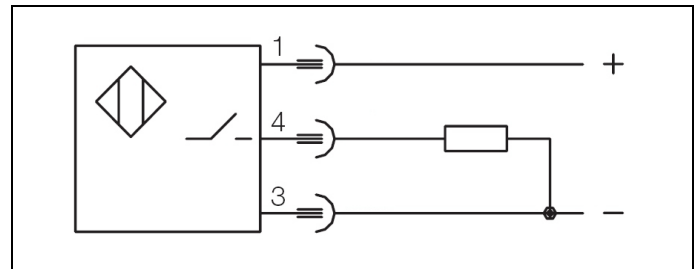

Fig. 8: circuit diagram for pnp (+) magnetic sensor
- Proceed in the same way with S2, so that a signal course as per figure 8 will be obtained.